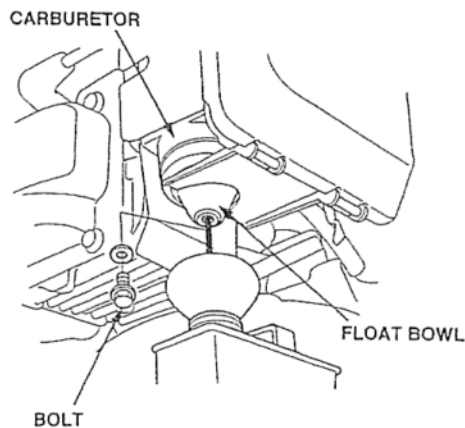

Figure 19
3. Remove the carburetor bowl drain bolt with a 10-mm wrench and drain the fuel into an approved gasoline container (Fig 19).